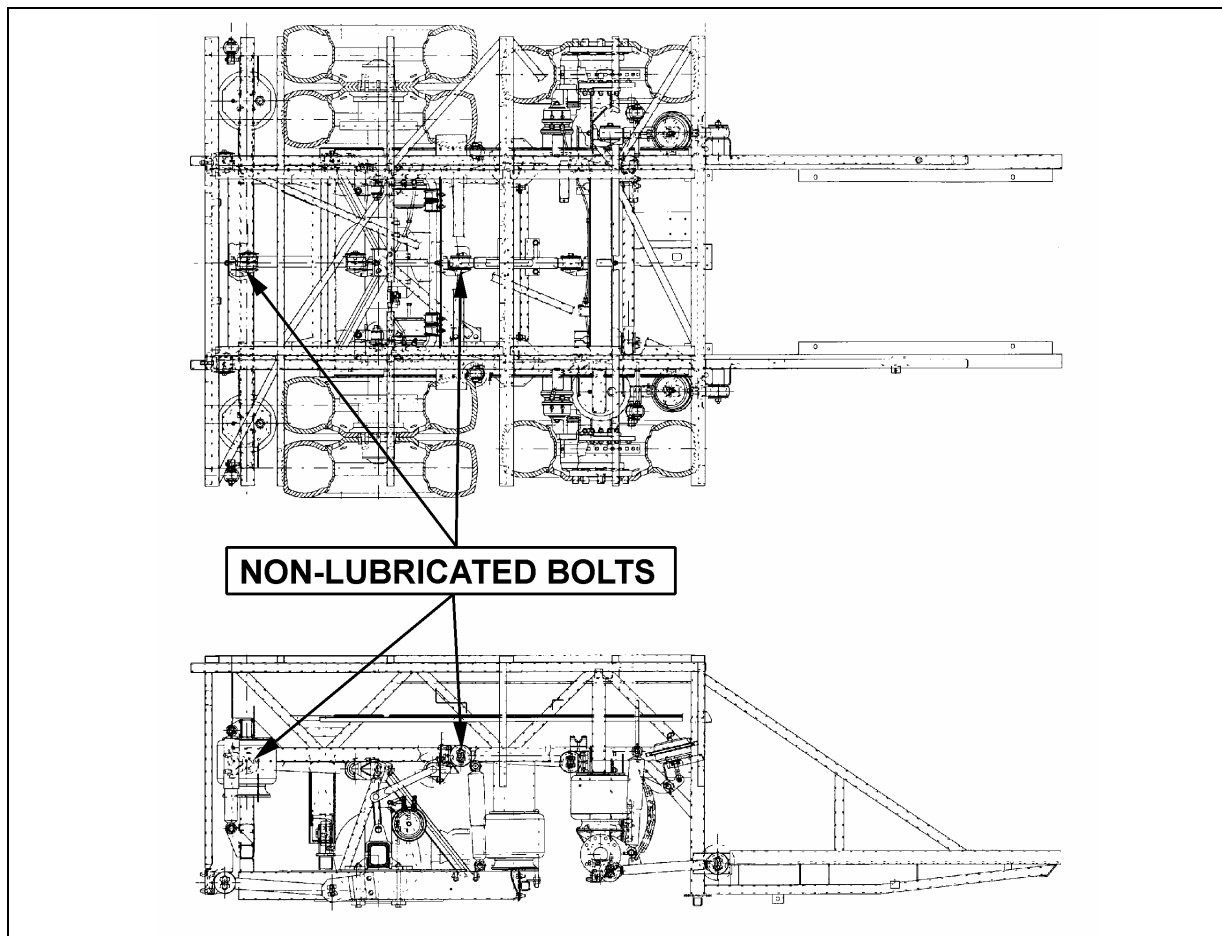

FIGURE 1 : REAR SUSPENSION NON-LUBRICATED BOLTS
1. Locate the two bolts used to secure the rear suspension longitudinal radius rods. Only the bolts identified in figure 1 must be lubricated.